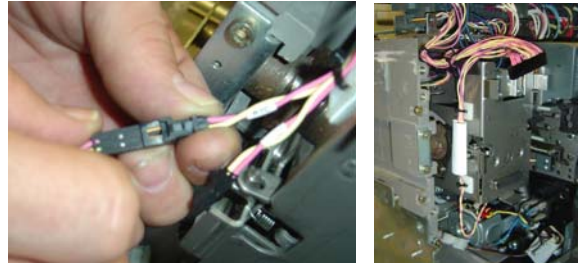

Figure 4. Connector Plug Assembly
6. When RTC thru trip unit is used, plug the connector from the RTC switch assembly to the connector marked as RTC from the harness of the trip unit as shown in Fig. 4.